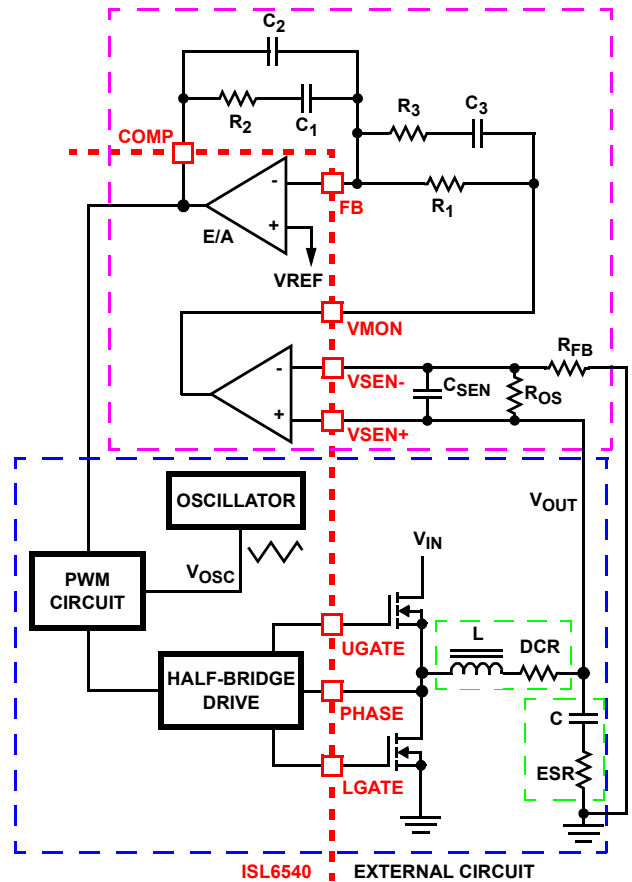

FIGURE 10. VOLTAGE-MODE BUCK CONVERTER COMPENSATION DESIGN
Figure 10 highlights the voltage-mode control loop for a synchronous-rectified buck converter, when using an internal differential remote sense amplifier. The output voltage ( $V_{OUT}$ ) is regulated to the reference voltage,  $V_{REF}$ , level. The error amplifier output (COMP pin voltage) is compared with the oscillator (OSC) triangle wave to provide a pulse-width modulated wave with an amplitude of  $V_{IN}$  at the PHASE node. The PWM wave is smoothed by the output filter (L and C). The output filter capacitor bank's equivalent series resistance is represented by the series resistor ESR.
1. Select a value for  $R_1$  (1kΩ to 10kΩ, typically). Calculate value for  $R_2$  for desired converter bandwidth ( $F_0$ ). If setting the output voltage to be equal to the reference set voltage as shown in Figure 22, the design procedure can be followed as presented. However, when setting the output voltage via a resistor divider placed at the input of the differential amplifier (as shown in Figure 10), in order to compensate for the attenuation introduced by the resistor divider, the below obtained  $R_2$  value needs be multiplied by a factor of  $(R_{OS}+R_{FB})/R_{OS}$ . The remainder of the calculations remain unchanged, as long as the compensated  $R_2$  value is used.
A small capacitor,  $C_{SEN}$  in Figure 10, can be added to filter out noise, typically  $C_{SEN}$  is chosen so the corresponding time constant does not reduce the overall phase margin of the design, typically this is 2x to 10x switching frequency of the regulator. As the ISL6540 supports 100% duty cycle,  $d_{MAX}$  equals 1. The ISL6540 also uses feedforward compensation, as such  $V_{OSC}$  is equal to 0.16 multiplied by the voltage at the VFF pin. When tying VFF to  $V_{IN}$  the above equation simplifies to: